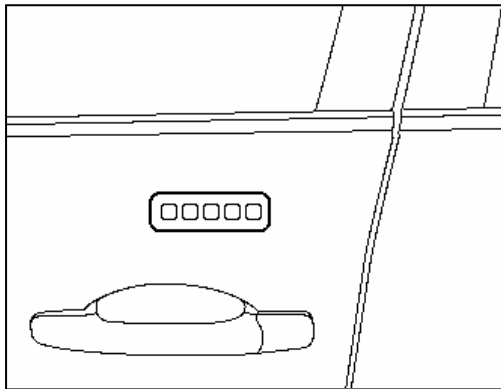

Figure 1
1. This product is designed to attach to your car door, centered between the door handle and the window sill. See **Figure 1**. Mounting surface must be relatively flat. Hold keypad up to desired mounting surface to confirm that all tape will contact mounting surface.